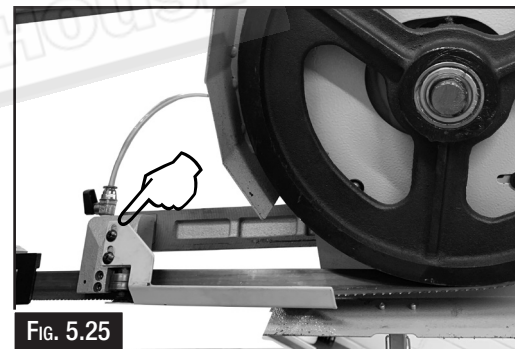

Fig. 5.25
3. Undo the two button head screws and remove the yellow blade guard. (Fig. 5.25)